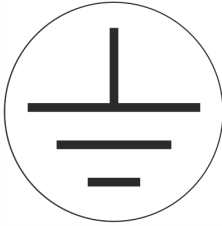

Figure 2.17 Protective conductor symbol
5. Connect the three grid wires (L1, L2, L3) and the grounding conductor (PE) to the terminal block with the respective markings. The grounding conductor is marked with the symbol shown in figure 2.17.